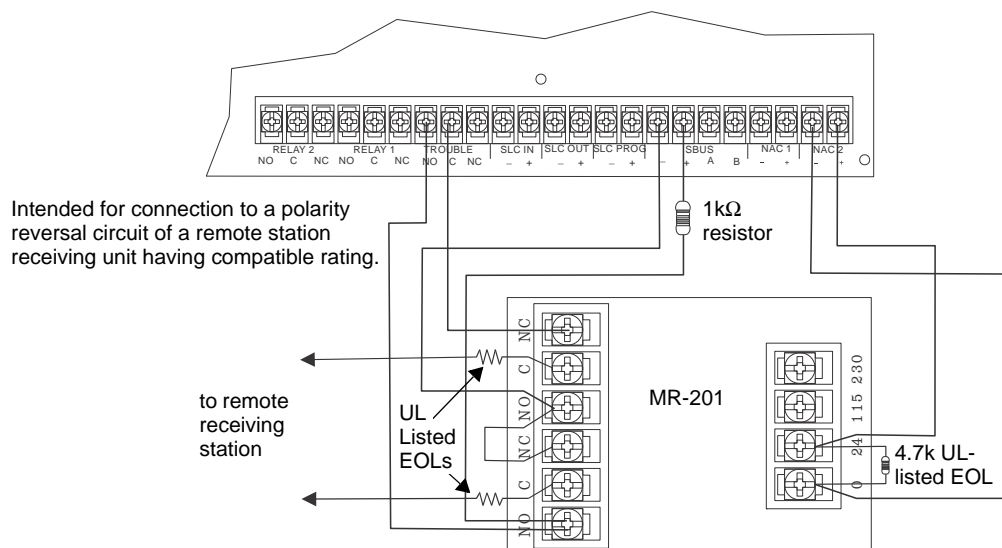

Figure 4.30 Polarity Reversal Connection Using the MR-201/T Relay
1. Wire the MR-201/T as shown in Figure 4.30.